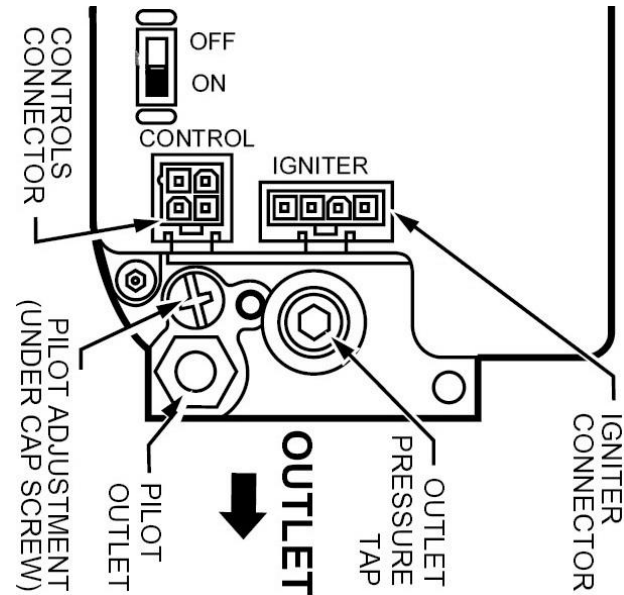

Figure 6
2. Connect the Test Harness between the valve control socket, **Figure 6**, and the HSI element/flame rod.